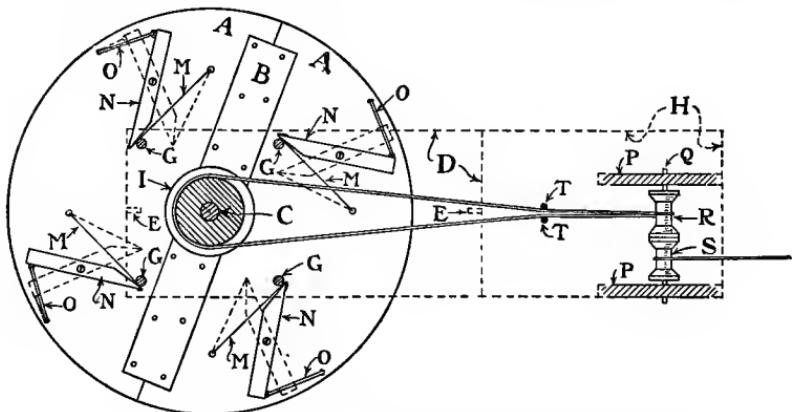
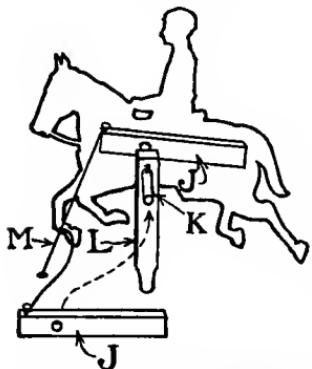

FIG. 306.—Plan of Under Side of Merry-Go-Round Platform.
FIG. 309.—Detail for Mounting Horses.
**The Revolving Platform** of the merry-go-round may be of any size that you wish to make it. That of the toy illustrated is 20 inches in diameter, and is made of two pieces of board 10 inches wide (*A*, Fig. 306), joined together at
the center with the board *B* (Fig. 306). A barrel-head might be used for the platform if you can find one; this would
and the face and clothes of the boy rider, with water-colors or crayons. After cutting out these cardboard horses and riders, paint the other side, then tack each to a strip of wood similar to *J* (Fig. 309). Each strip should have a hole drilled through it to fit a wooden axle *K*, and each axle should be slipped through a hole in an upright *L*, which in turn should be
driven into a hole bored in the revolving platform (Fig. 304). The horses should be pivoted on axles *K* a trifle forward of their balancing point, as shown in Fig. 309.
**The Horses are Made to Gallop** by the triggers *N* (Figs. 304, 305, and 306), which are screwed to the under side of the merry-go-round platform in such positions that they are operated by pegs *G* as the platform revolves (Fig. 306). The cords *M* attached to the ends of sticks *J* (Fig. 309)
run through holes in the platform, and are tied to tacks in the ends of triggers *N* (Figs. 304, 305, and 306). Fasten the rubber-bands *O* to the opposite end of the triggers (Figs. 305 and 306), to spring them back into the positions indicated by dotted lines in Fig. 306, after they slide past pegs *G*.
The Pulley Supports *P* (Figs. 302, 304, and 306) are fastened to the projecting end of base *H*, in the proper position so the center of one of the two spool pulleys mounted upon the shaft *Q* (*R*, Fig. 306) will be in line with the center of the pulley *I*.